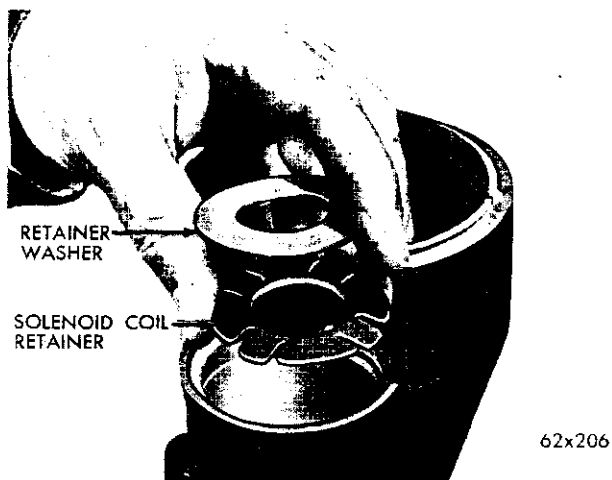

Fig. 28—Identification of the Solenoid Coil Retainer and the Retainer Washer
(17) Remove the solenoid coil retainer washer and solenoid coil retainer from the solenoid housing (Fig. 28).
(8) Install the solenoid coil retainer (Fig. 28)